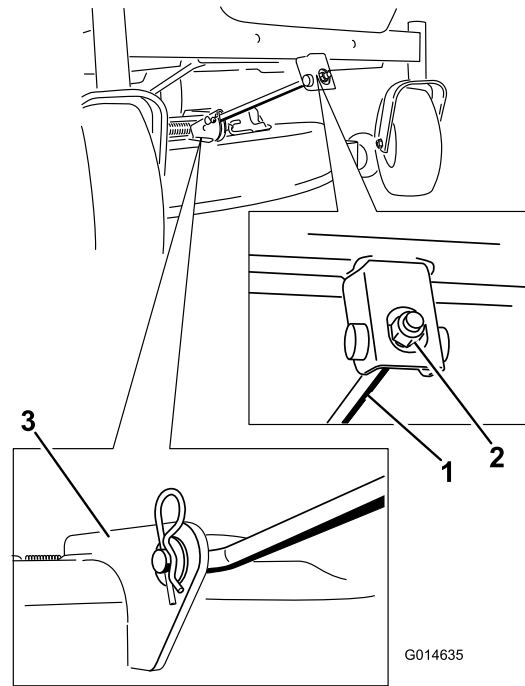

Figure 61
4. Remove the hairpin cotter from the front support rod and remove the rod from the deck bracket (Figure 61).
6. Attach the front support rod to the mower deck with the clevis pin and hairpin cotter (Figure 61).